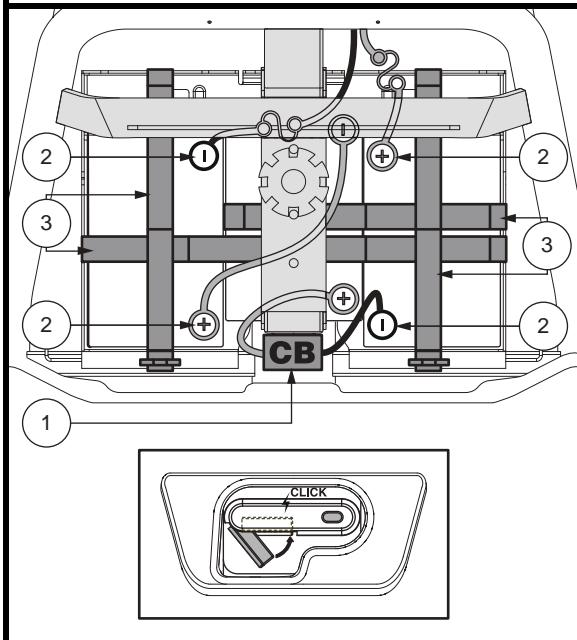

Figure 12. Battery Removal/Installation Terminals and Connections
6. Place a new battery in each battery well according to the battery wiring diagram as shown in **figure 12**.